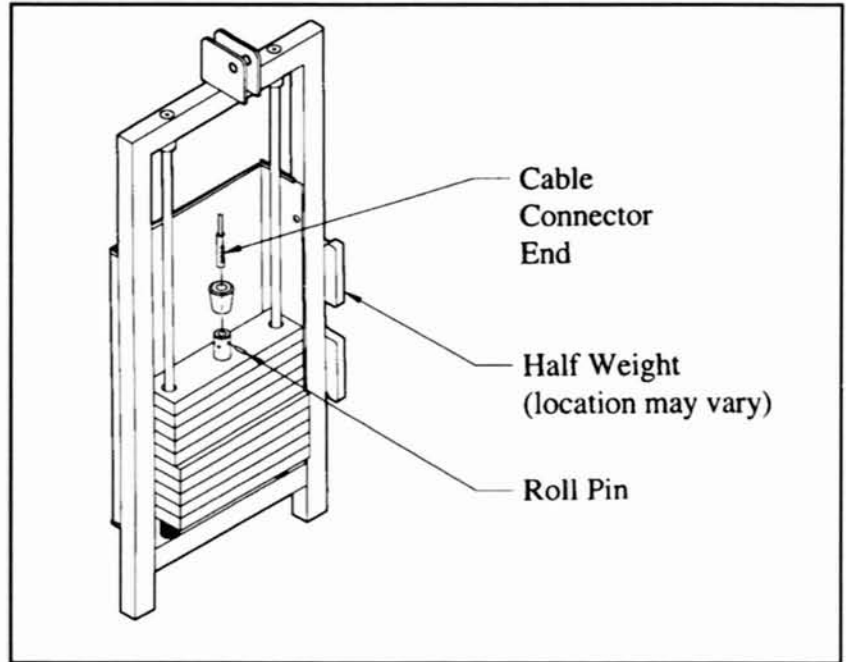

Figure 12
11. Using a hammer, drive roll pin through top weight cable connector holes and cable fitting. Assure pin is flush with top plate collar. See Figure 12 on next page.